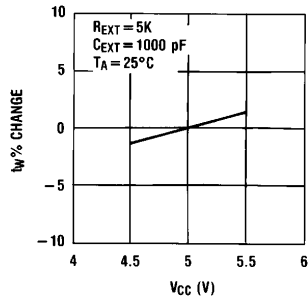
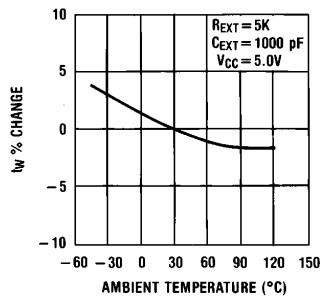

FIGURE 3
FIGURE 4
5. Output pulse width versus  $V_{CC}$  and operation temperatures: *Figure 3* depicts the relationship between pulse width variation versus  $V_{CC}$ . *Figure 4* depicts pulse width variation versus ambient temperature.